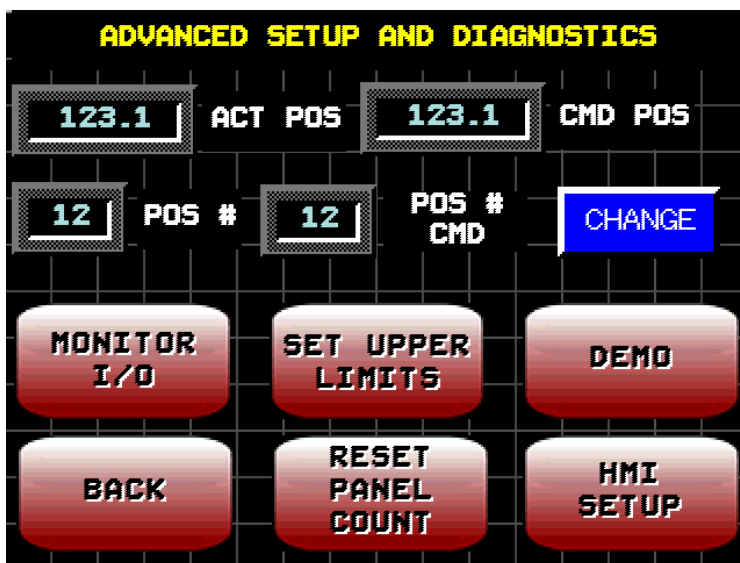

Figure 3.15
3. Advanced setup home screen shows up (Figure 3.15). Allows viewing of actual position as well as ability to change it.